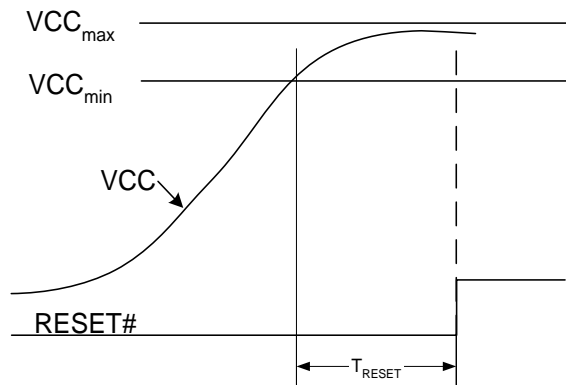
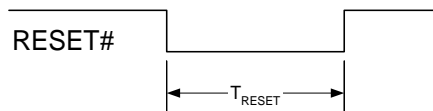

Figure 4.8. Conditions for Use of RESET#
Figure 4.9. RESET# Minimum Timings
1. Reset on RESET# signal can be LOW as the supply becomes stable (shown in Figure 4.8), or pulled LOW for at least TRESET (shown in Figure 4.9).
VCC must be stable between its limits for Normal Operating Conditions for  $T_{RESET}$  before RESET# goes HIGH, as shown in Figure 4.8. Before accessing registers, RESET# must be pulled LOW for  $T_{RESET}$ . This can be done by holding RESET# LOW until  $T_{RESET}$  after stable power, as described above, or by pulling RESET# LOW from a HIGH state for at least  $T_{RESET}$ , as shown in Figure 4.9.